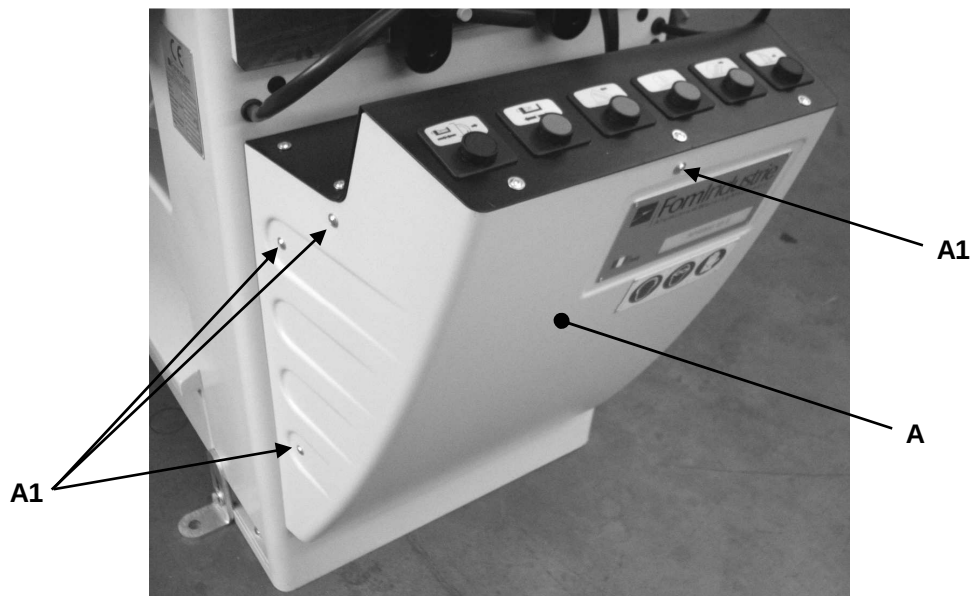

Fig. 10-09
- 2) Remove the control console front guard "A" using the 7 fixing screws "A1", 3 screws on the left side, 3 screws on the right side and 1 screw on the front side (Fig. 10-09).
- 8) Fit the control console front guard "A" using the 7 fixing screws "A1" (Fig. 10-09).